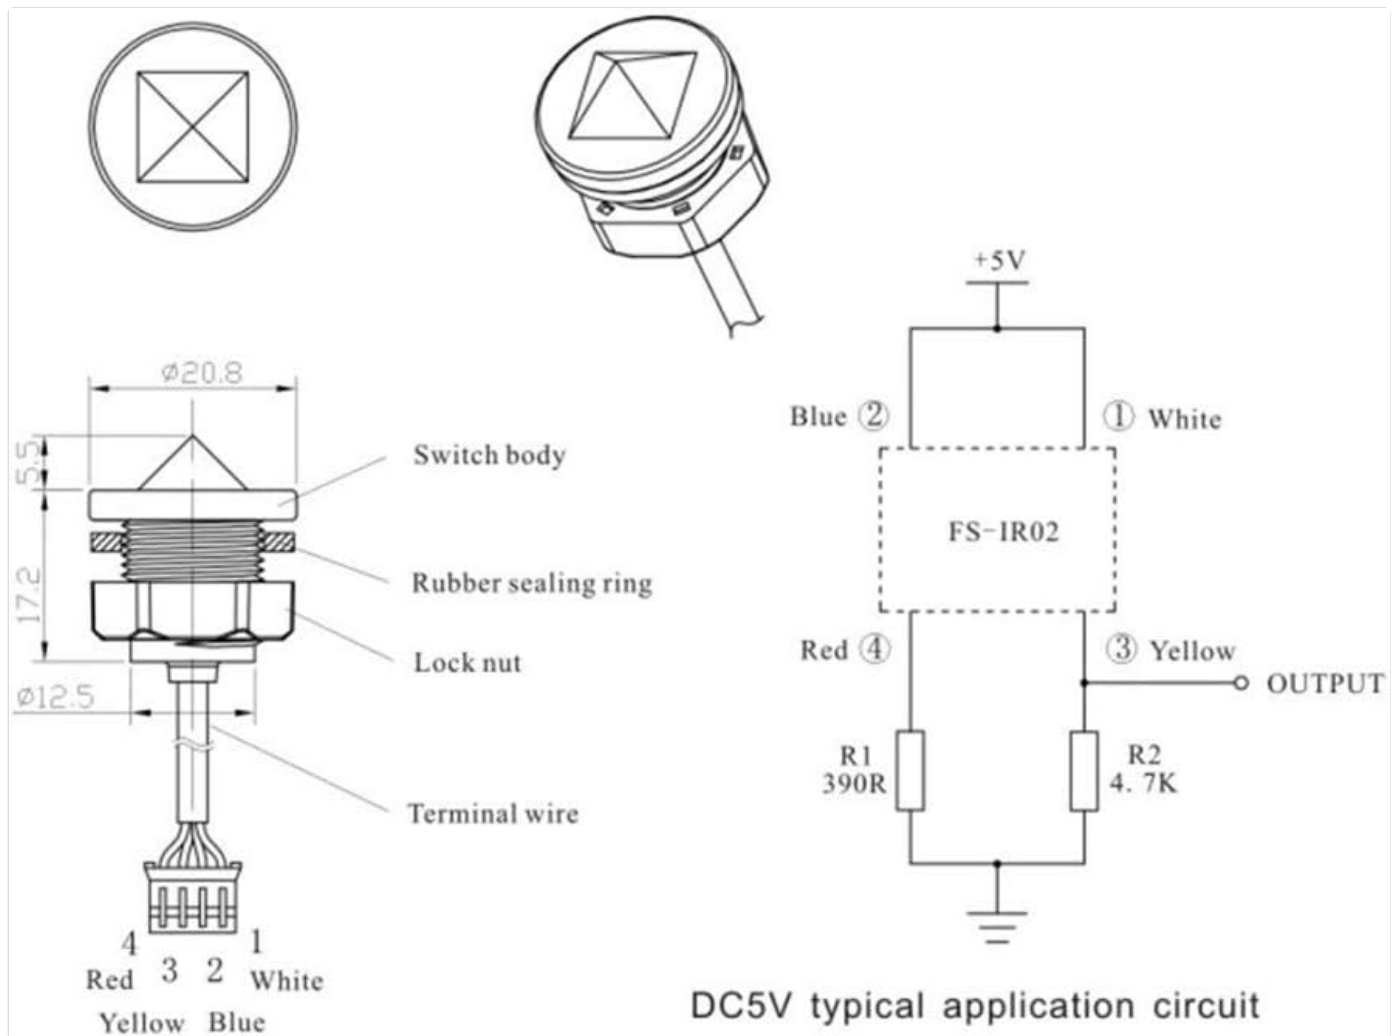

Figure 3: Sensor Dimensions and Wiring Diagram
Refer to **Figure 3** for the typical DC5V application circuit. The sensor features a 4-pin connector with the following wire assignments:
- **Resistor Values:** Double-check the resistance values of R1 (390 Ohm) and R2 (4.7K Ohm) in your circuit against the recommended values in **Figure 3**. Incorrect resistors can lead to improper signal conditioning.